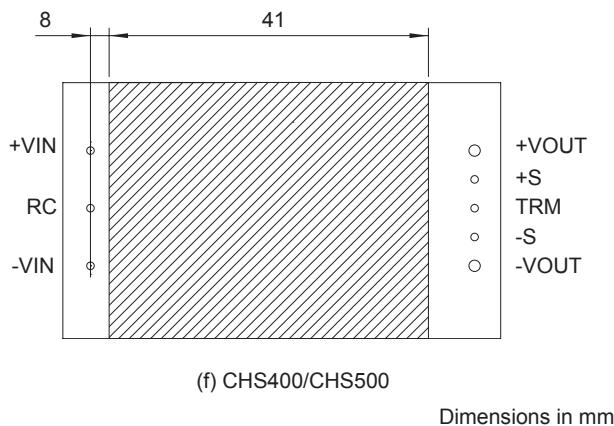

Fig.6.1 Prohibition area of pattern layout (top view)
■ Avoid placing pattern layout in hatched area shown in Fig.6.1 to insulate between pattern and power supply.